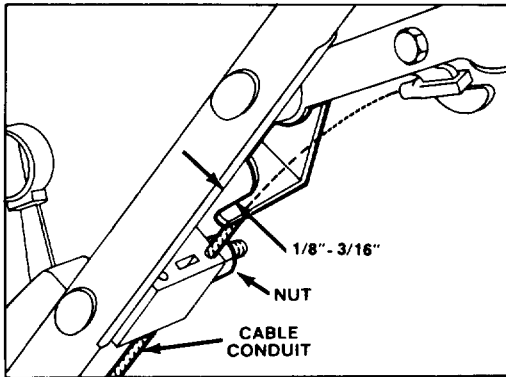

Figure 20
2. CHECK ADJUSTMENT (Fig. 20) — Move control bar toward handle until slack in wire is removed. Gap between brake lever and handle must be 1/8"-3/16". See step 3 for adjustment.
3. ADJUST CABLE CONDUIT — Loosen nut on cable bracket (Fig. 20). Insert 1/8"-3/16"